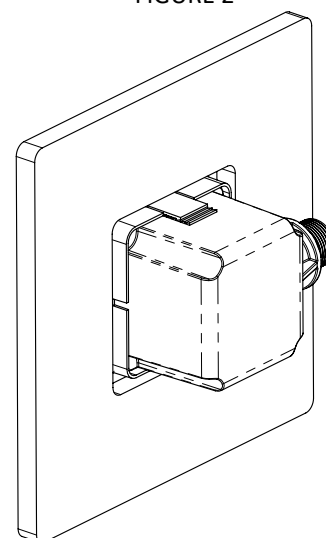

FIGURE 3
5. Attach the Flush Cover plate to the PQC160 by press fitting the unit into the mechanically locking tabs. (See Figure 3)